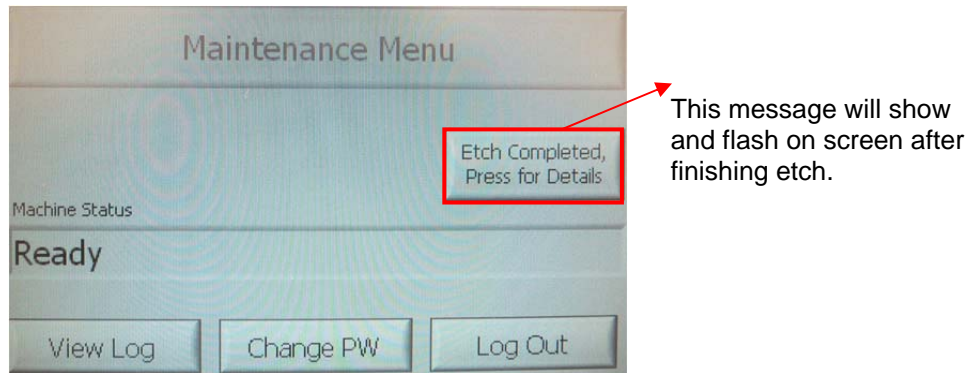

Figure 10: Main screen with the “Etch Completed” message flashing.
- 4) Start the recipe by press the green **“Start Etch”** button on the screen. When the etching process is finished, it will return to the main menu. A message **“Etch Completed”** will flash on screen as shown in Figure 10.